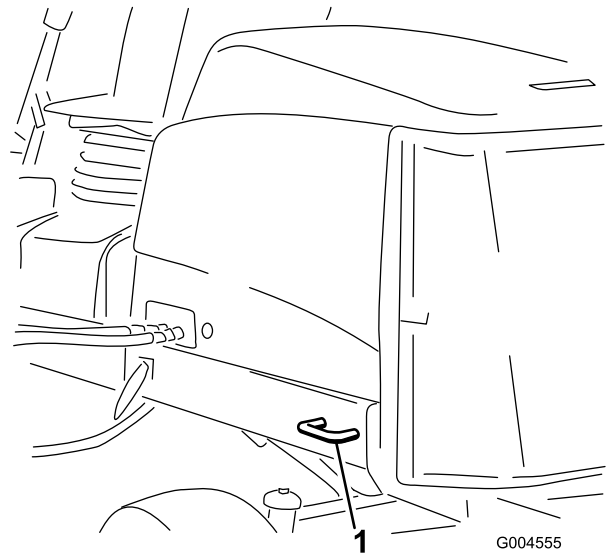

Figure 22
- Rear—each side of the machine on the rear frame (Figure 22).